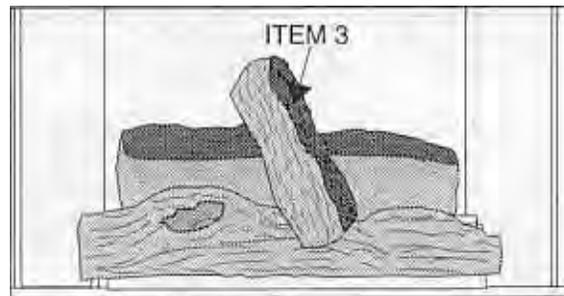

Figure 53
4. See **Figure 53**. Position the large straight log (**Item 3**) with the "bark" of the log to the right. Place one end of the log in the center indentation of the Front Log. Place the opposite end at a slight angle (to the left) near the center of the Back Log. Make sure the log passes over a single row of burner ports on the Burner Pan Assembly.